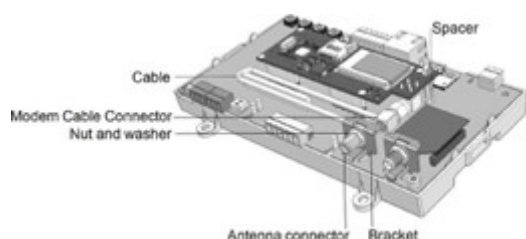

Figure 24: GSM modem on a Firefighter Gateway board
1. Insert the top of the plastic spacer through the opening in the GSM modem, as shown in Figure 24.